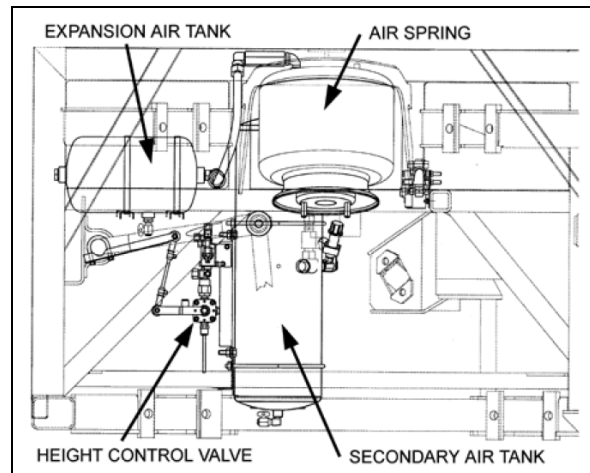

FIGURE 35: HEIGHT CONTROL VALVE LOCATION ¹⁶⁰⁵⁷
2. Remove the nut and washer from shock absorber mounting pin (upper side), taking care to identify the inner and outer washers to ease reinstallation. Refer to figure 35 for details.
3. Place the inner washer on shock absorber pin (Fig. 35).